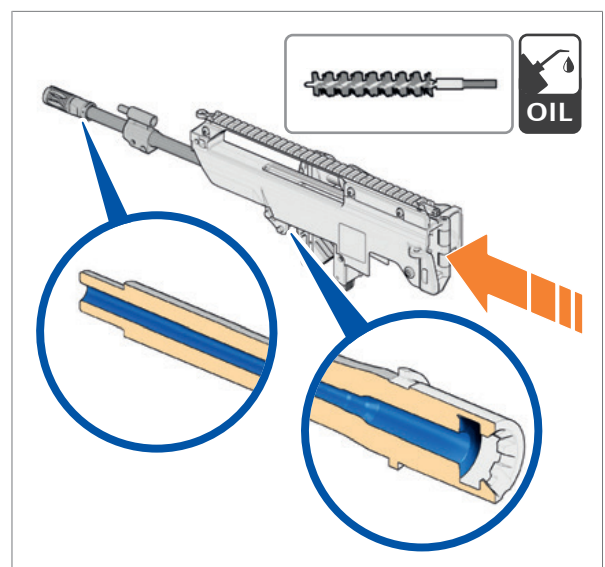

Fig. 113: Lubricate the inside of the barrel
22. Pull lubricated oil brush through barrel to preserve the barrel (Fig. 113).